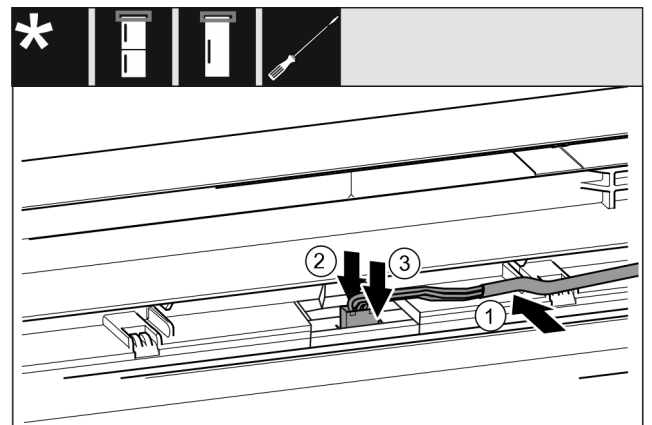

Fig. 44
- ▶ Insert the gray cable into the guide in the top door. Fig. 44 (1)
- ▶ Press back the latching lug. Fig. 44 (2)
- ▶ Engage the plug. Fig. 44 (3)